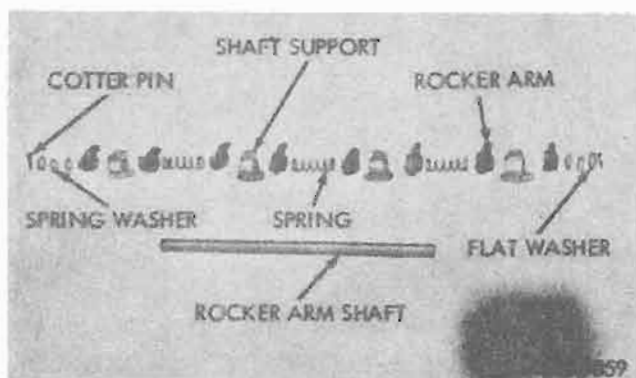

Figure 4-145. Rocker arm and shaft assembly.
b. *Remove Valve Rocker Arms.* Identify rocker arms with grease pencil so they can be installed in their original location. Remove cotter pin, two washers, and a spring washer from each end of rocker arm shaft and slide the rocker arms, rocker arm shaft supports, and rocker arm shaft locating springs off the rocker arm shaft (fig. 4-145).